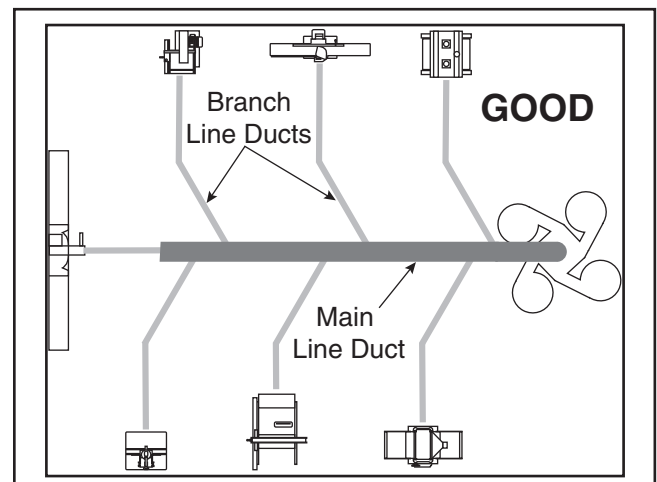

Figure 24. Good duct layout.
2. Ideally, you should design the duct system to have the shortest possible main line and secondary branch ducts. See **Figures 24 & 25** for ideas of good duct layouts vs bad duct layouts.